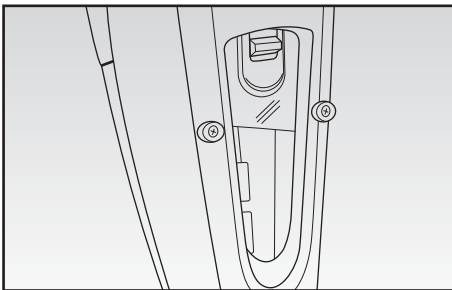

Fig. 7
- From the back of the appliance, check whether the dust container (F) is full (Fig. 7).